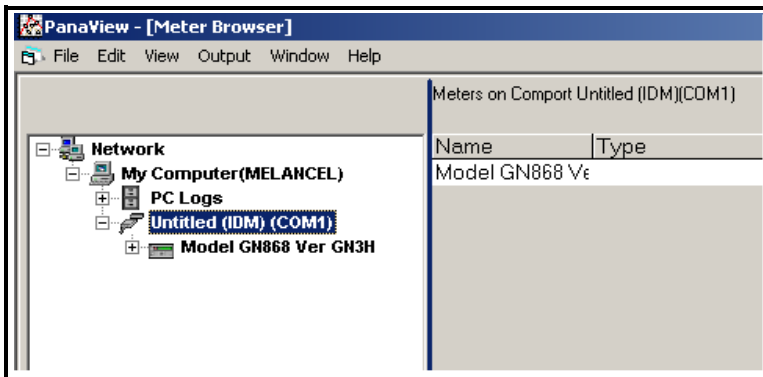

Figure 5-3: The Serial Port Branch
2. Fully expand the *network tree* and highlight the chosen communication port (see Figure 5-3 below).